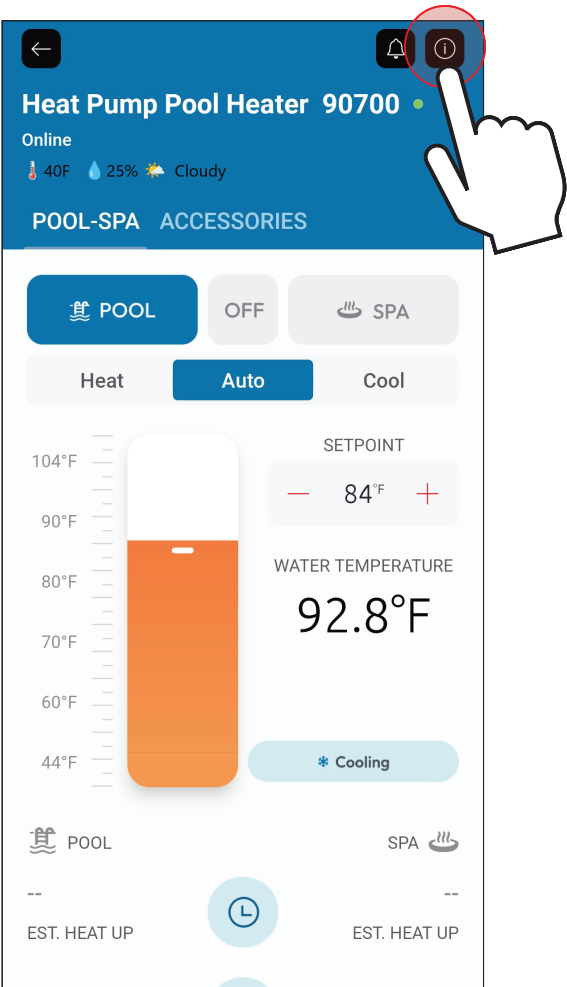

Figure 102. Open Unit Settings
2. Press the 3-dots button on top-right corner to open unit settings. See **Figure 102**.